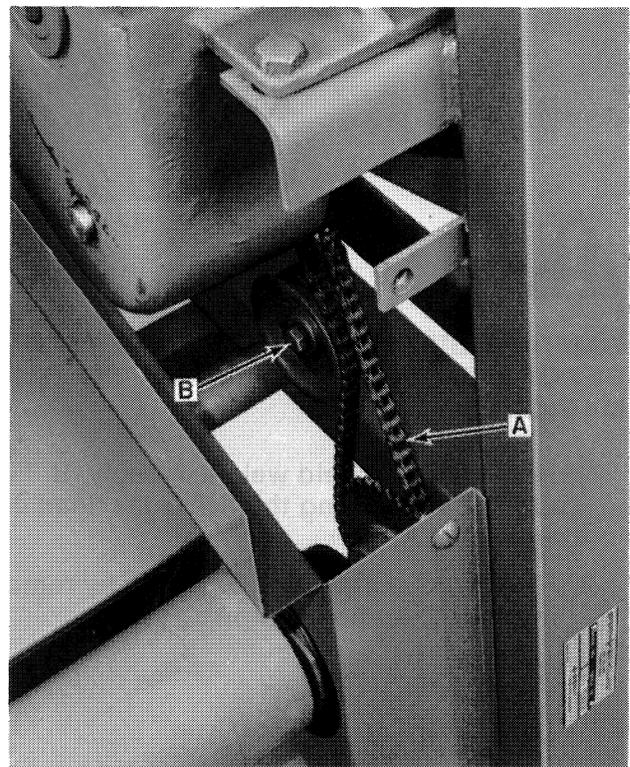

FIGURE 6
7. Remove the conveyor drive chain, A, Figure 6, by loosening the drive chain idler at B.